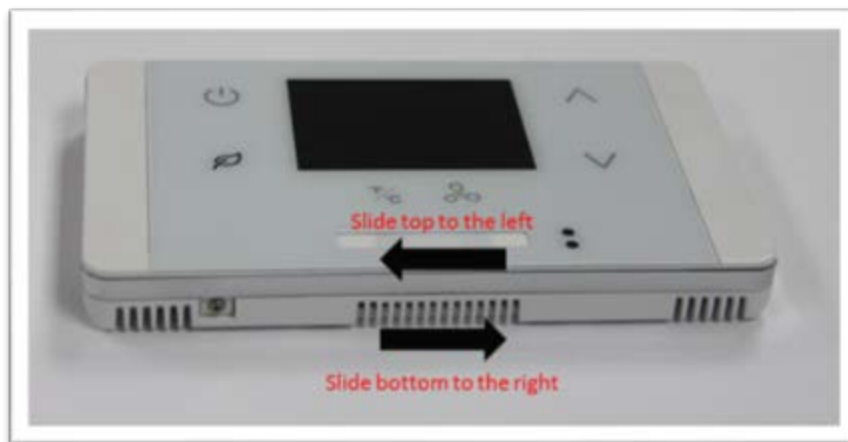

Figure 26: Slide Top Left, Bottom Right
- Step 3 Separate the backplate from the EcoTouch by sliding the backplate to the right and the front plate to the left (approximately ¼ inch), as shown in Figure 26.